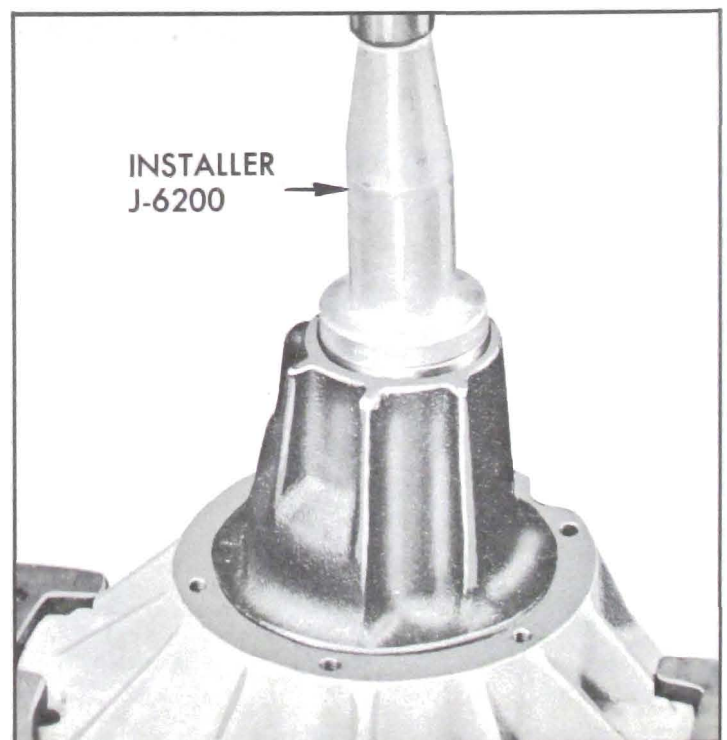

Figure 6-30—Installing Pinion Seal
6. Lubricate new pinion seal with axle lubricant and install with lip toward bearing, using Installer J-6200. See Figure 6-30. Reinstall